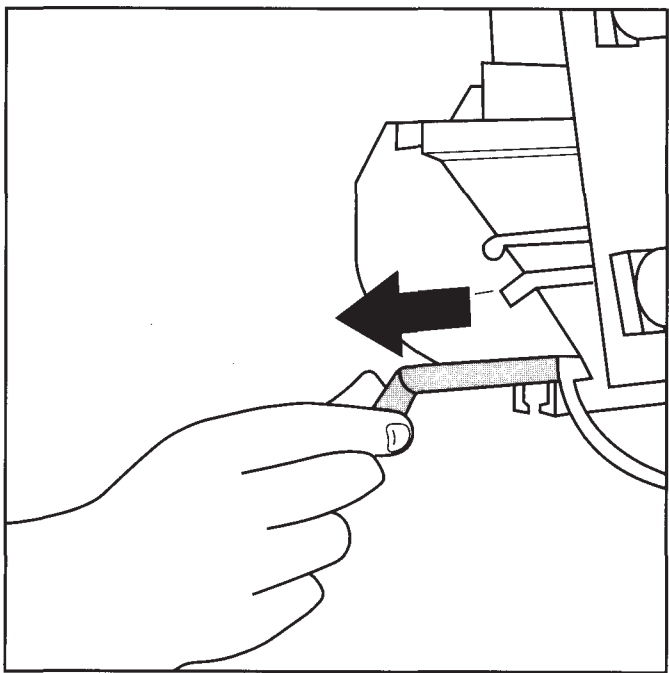

fig. 2
Pull the plastic locking pins (30) out (fig. 2) and detach the acrylic sheet (31) from the aluminium profile.